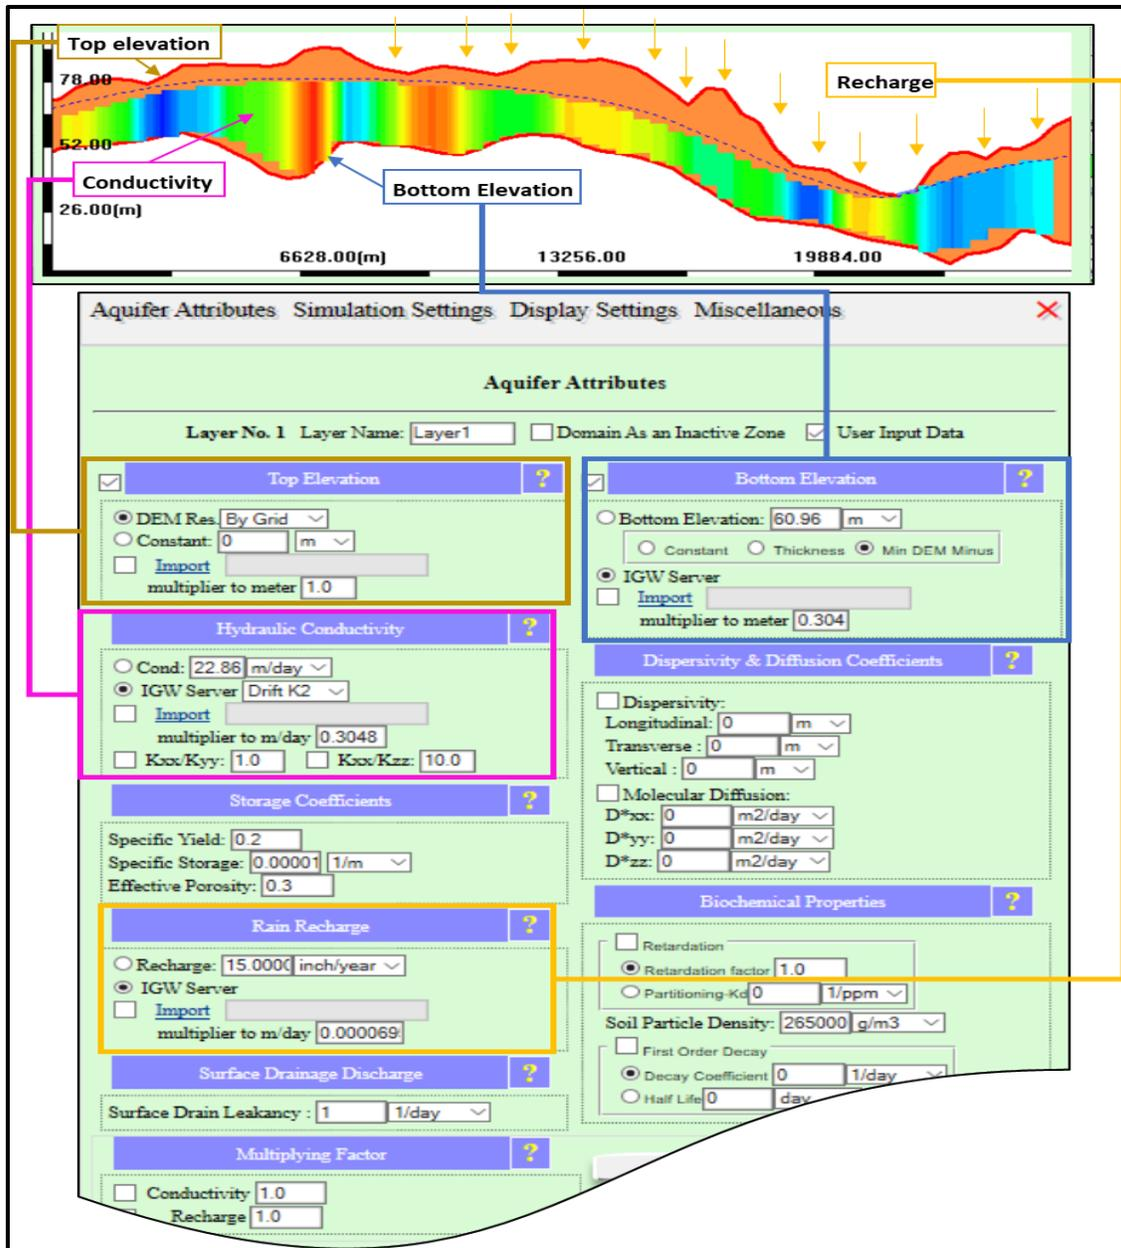

Figure A2: Assigning input parameters from the Server.
- Step 2 – assign default parameters from the Server for the model domain (Figure A2).